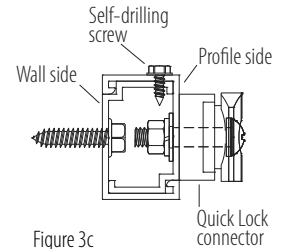

Figure 3c
- Insert a self-drilling screw through the top for a secure assembly. (Figure 3c)